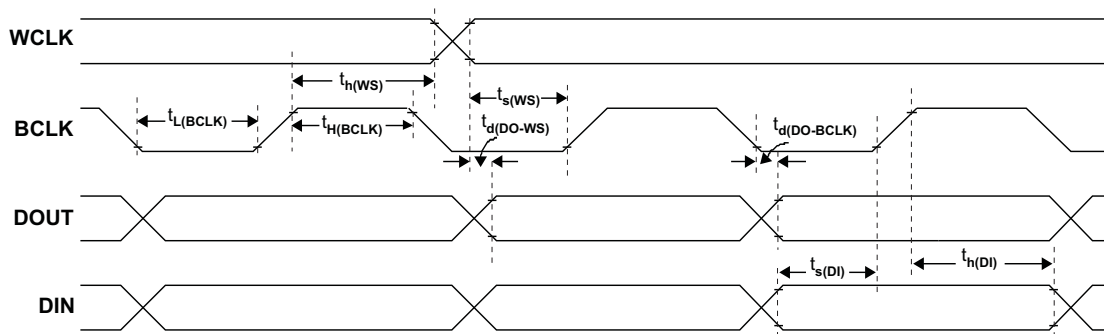

**Figure 4. I2S/LJF/RJF Timing in Master Mode**
**Table 2. I2S/LJF/RJF Timing in Master Mode (see Figure 4)**